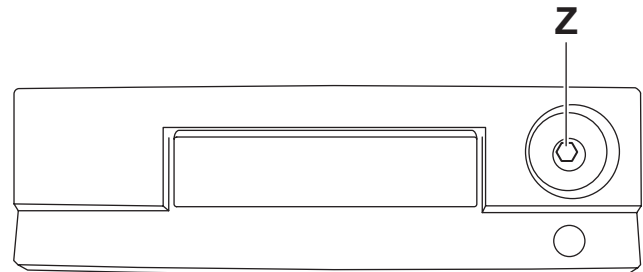

Fig.15
3.2.2 Removing the power switch board (See Fig. 15)